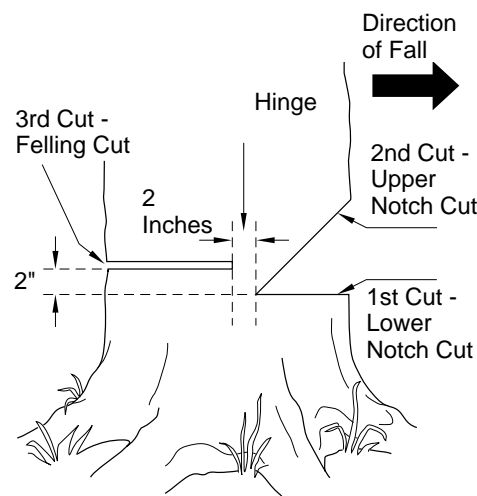

Figure 12 - Felling A Tree
A properly placed felling notch will determine direction tree will fall. Place felling notch on side of tree in direction you want tree to fall (see Figure 12). Follow directions below to create a felling notch.
1. Make lower notch cut as close to ground as possible. Hold saw so guide bar is horizontal. Cut 1/3 the diameter of tree trunk (see Figure 12). **Note:** Always make this horizontal lower notch cut first. If you make this cut second, tree can pinch chain or guide bar.
Example: If lower notch cut is eight inches deep, start upper notch cut eight inches above it. Cut downward at 45° angle. The upper notch cut should meet end of lower notch cut (see Figure 12).
1. Make felling cut two inches higher than lower notch cut and on opposite side of tree (see Figure 12). Keep felling cut parallel to lower notch cut.
⚠ **WARNING:** Do not cut all the way through tree. Leave about two inches of tree diameter uncut directly behind felling notch (see Figure 12). This uncut portion acts as a hinge. The hinge helps keep tree from twisting and falling in wrong direction.